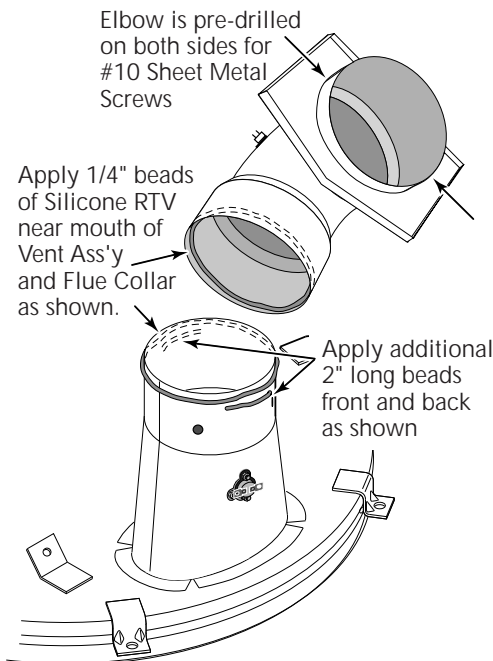

Figure 6: Apply Silicone RTV beads as shown. Spread out RTV with a tongue depressor or a rubber gloved finger.
13. The Metal Elbow Assembly (Figure 6) is predrilled to take #10 sheet metal screws to lock the Appliance Adapter to the Elbow Assembly after it has been RTV glued in place.
15. Use the RTV supplied to apply two continuous 1/4" beads of RTV, one all the way around inside the Elbow, and the other all the way around outside the Combustion Chamber Flue Collar. Apply two additional 1/4" beads about 2" long to the Flue Collar, front and back (see Figure 6).